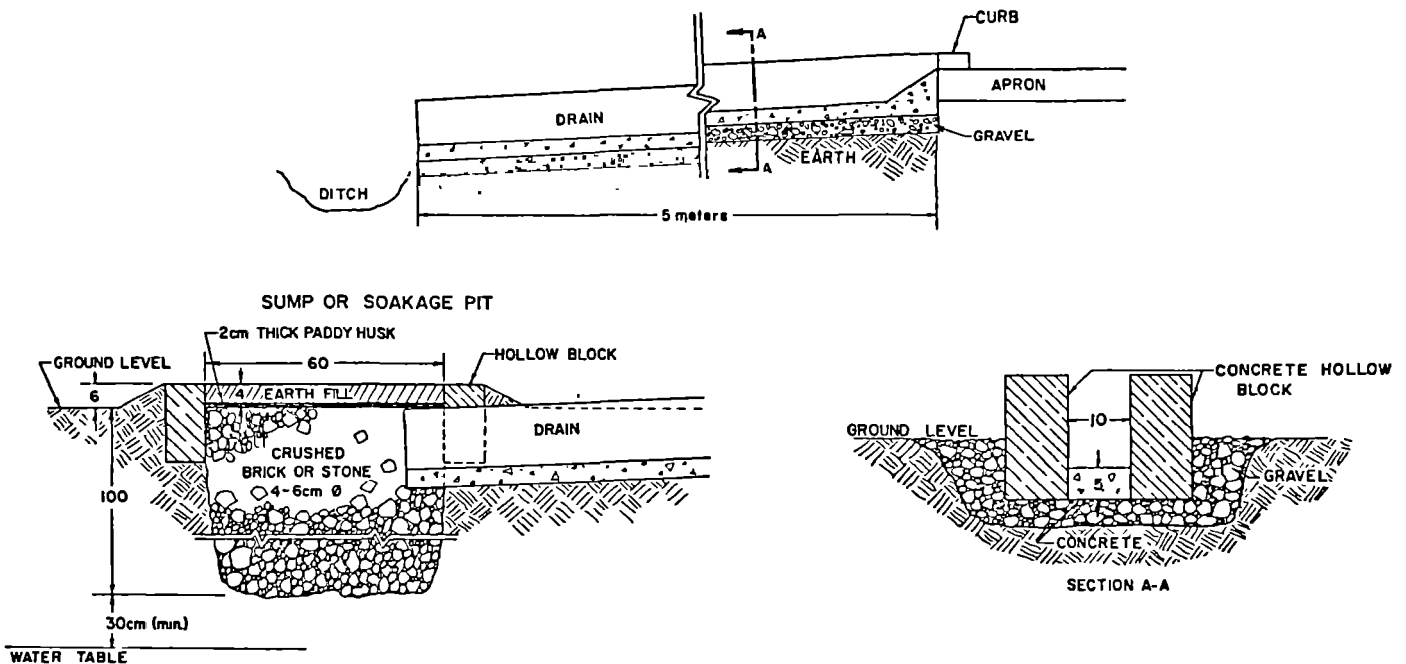

Figure 1. Apron Drain
Excavate a drainage trench from the drain space in the apron to a sump or an existing drainage ditch. Slope the bottom of the trench so water from around the apron will drain into it as shown in Figure 1. Fill the trench with at least five (5) cm of small gravel. Using hollow blocks, construct a concrete drain over the gravel in the trench for a distance of at least five (5) meters. The floor of the drain should be five (5) cm thick and ten (10) cm wide. The concrete drain removes water from the apron while the sublayer of gravel allows water from around the apron to be drained away.